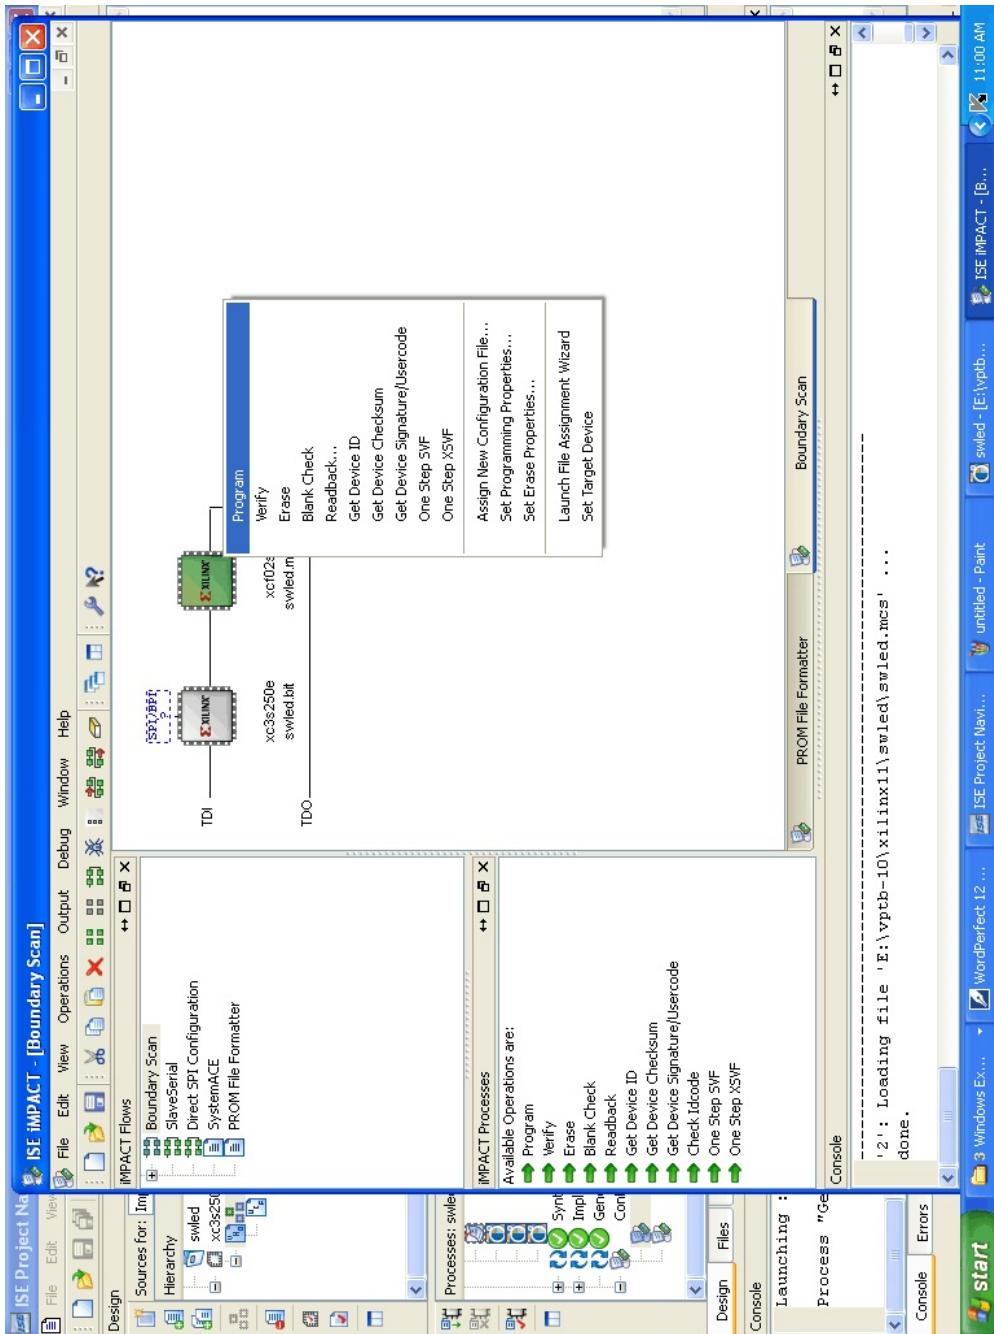

Figure-64
27. Now right click the PROM xcf02s device in the **Boundary Scan** tab and then click **Program** as shown in **Figure-64**. The program starts downloading into your **PROM** device.